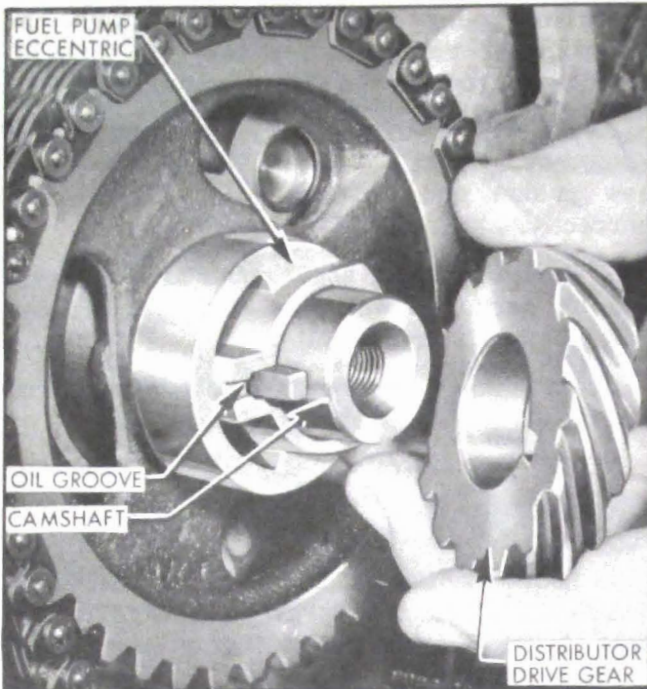

Figure 2-39—Fuel Pump Eccentric and Distributor Drive Gear Installation
5. Slide fuel pump eccentric on camshaft and Woodruff key with oil groove forward. See Figure 2-39.
6. Install distributor drive gear. See Figure 2-39.